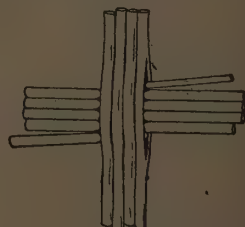

FIG. 5
4. The spokes which are slit must be held vertical. Insert the odd spoke in the lower left corner, and the No. 1 weaver in the upper right corner (Fig. 5).
4. Insert the odd spoke in the lower left corner, and the No. 1 weaver in the upper right corner (Fig. 5).